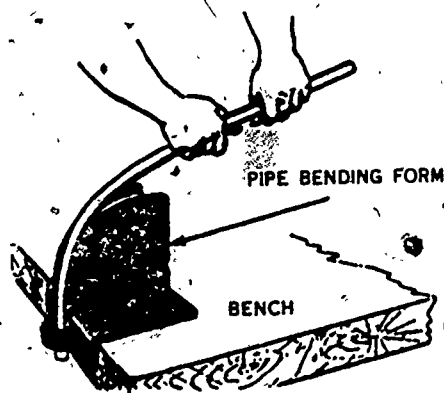

Figure 3-2. Bending tubing over a block.
b. Bending tubing with a bending block. Another method used in bending soft copper tubing is with the use of a bending block of the correct size, as shown in figure 3-2. The block is mounted on a table or some other solid structure. During the bending operation, the end of the tubing is inserted in the loop, and by using both hands the tubing is gradually formed over the contour of the block.